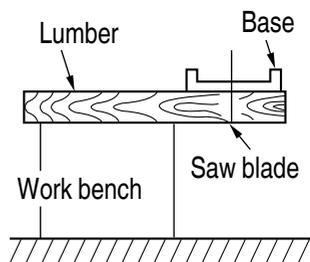

Fig. 17
6. Prepare a wooden work bench (**Fig. 17**)